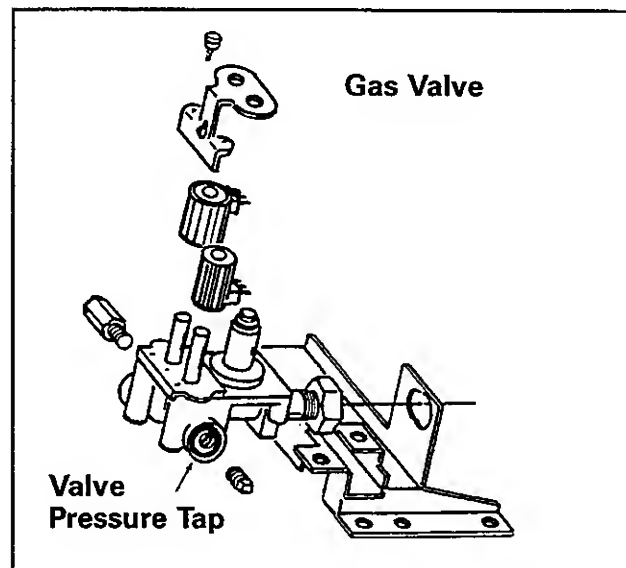

Figure 2-1
4. Install a 5/16" tapered fitting at the gas valve pressure tap. Use thread seal tape or compound on fitting (*Figure 2-1*).